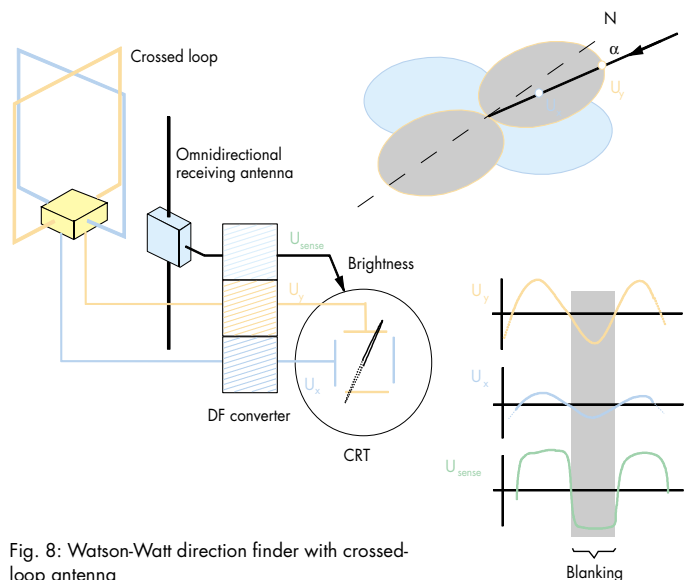

Fig. 8: Watson-Watt direction finder with crossed-loop antenna
**Crossed-loop antennas with Watson-Watt evaluation** (Fig. 8) are mainly suitable for mobile applications due to their compact size. They feature the following benefits and drawbacks: